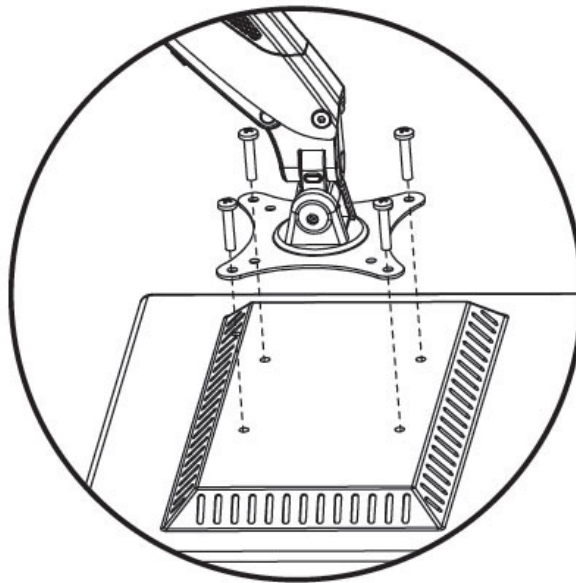

Figure 12: Flat Back Monitor
- 3-1. For flat back monitors use M4x12 Bolt, and tighten with a screwdriver, see Figure 12.